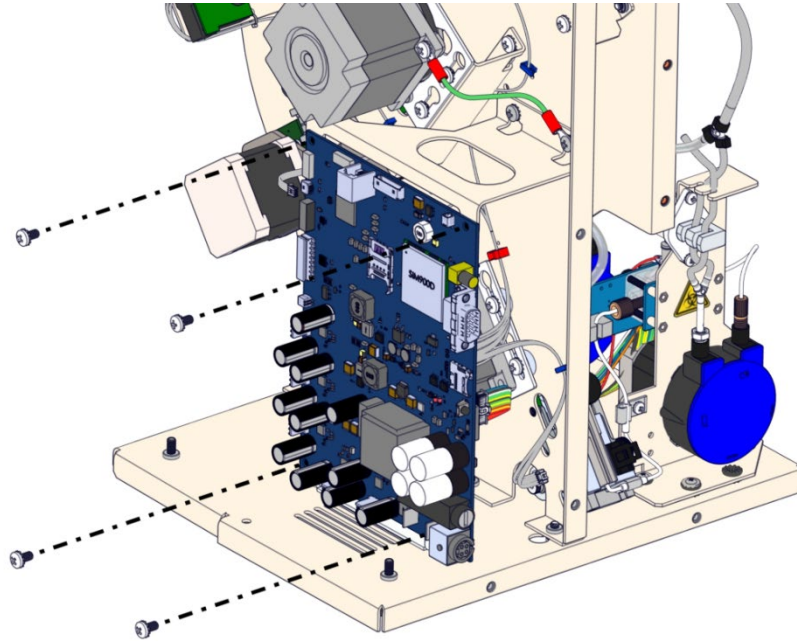

Figure 6
- 2.8. Remove the mainboard (112-02-009) by removing all wires and 4 screws from the mainboard. Figure 6